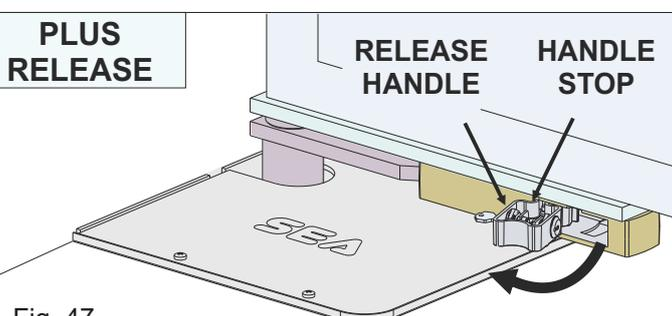

Fig. 47
- pull the key outwards up to its stop in order to extract the handle of the release system (Fig. 47)